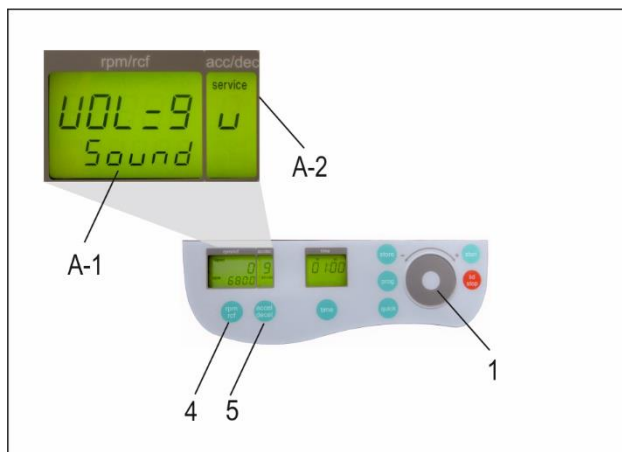

Figure 7
Proceed as illustrated, under point 3.2, to enter this program mode, press the key "accel/decel" (5). In the display, "accel/decel" (A-2), flashes the word, "service". Select the letter, "U" with the control field (1). As a result, appearing in the display, "rpm/rcf" (A-1), are the words, "Vol=0- 9/Sound". By pressing the key, "rpm/rcf" (4), the desired volume can be adjusted between 0 (low) and 9 (loud), with the adjustable knob (1), (see Figure 7).